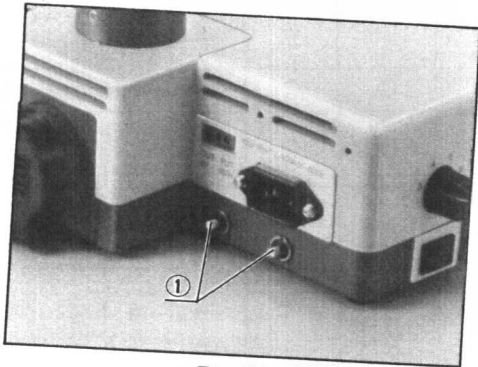

Fig. 26
If the bulb fails to light due to the change of the input voltage, etc., press the circuit breaker button ① at the back of the illumination base. (Fig. 26)